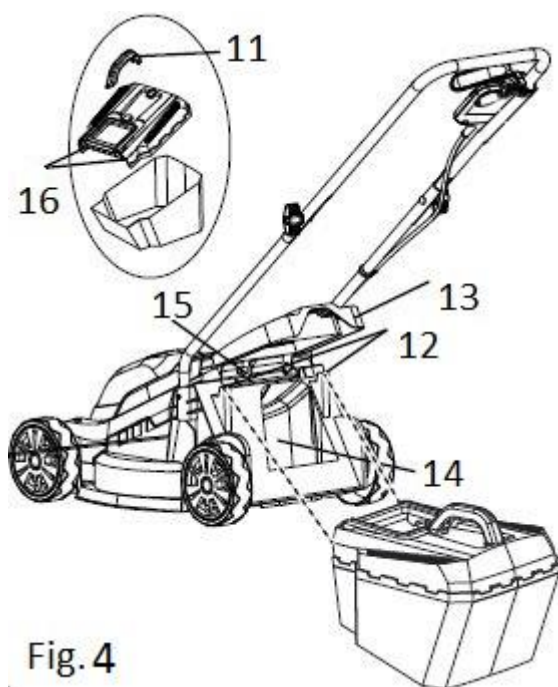

Fig. 4
12. Slots } see Fig. 4
13. Rear door } see Fig. 4
14. Rear discharge opening } see Fig. 4
15. Door rod } see Fig. 4
### See Figure 4